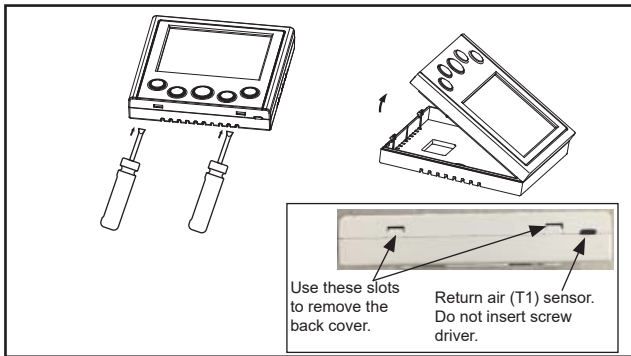

Figure 1. Remove Controller from Back Cover
1. Remove the controller from the back cover using a flat head screw driver as shown. See Figure 1.